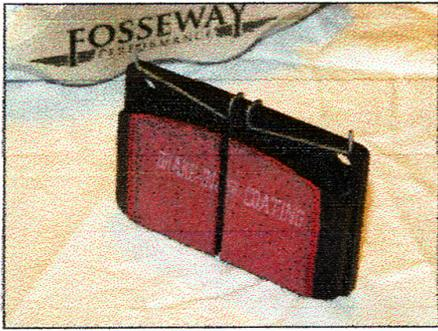

Fig 1.
- Fit the anti-rattle springs to the pads. See Fig 1.